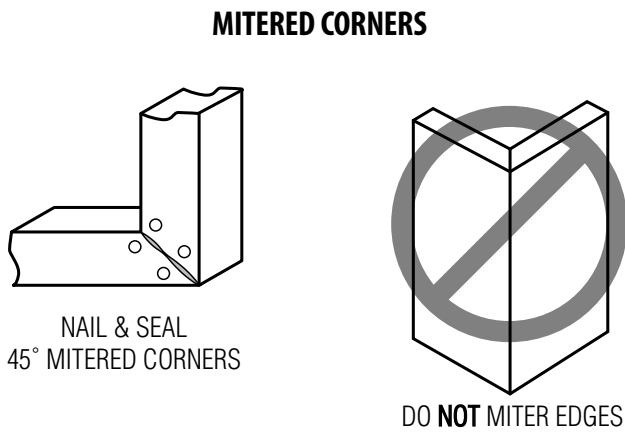

Figure 6
- Do not miter sides (edges) of trim. If trim is cut to fit around door and window openings, raw edges of trim must be primed and painted or sealed with approved sealant (see Fig. 6).
- 45 degree diagonal cuts are permitted around door and window openings (see Fig. 6).